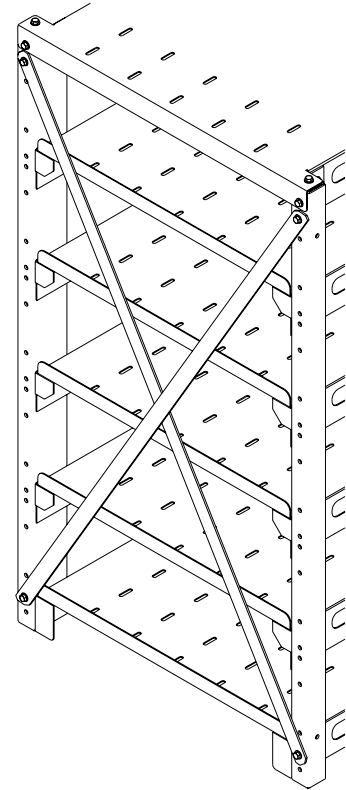

Figure 7.6a – Rear view of rack
- Install the rear cross braces per Figure 7.6a.